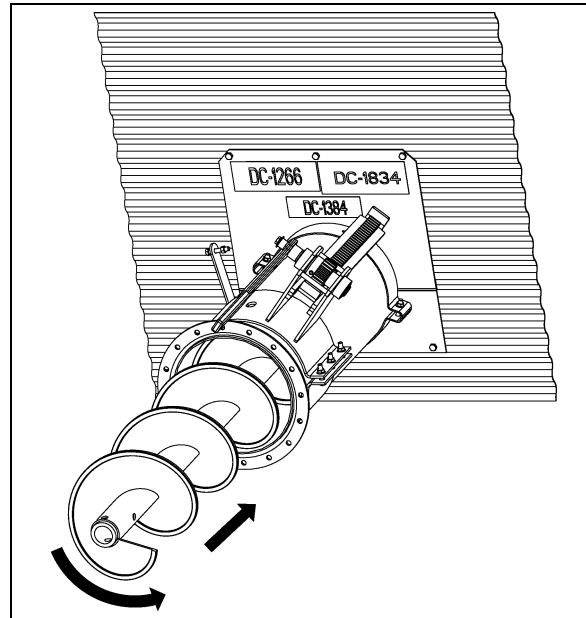

Figure 4U
2. Insert the flight into the tube with the square bushing end facing the center well and the round bushing end facing the discharge end of the tube. (See Figure 4U.)